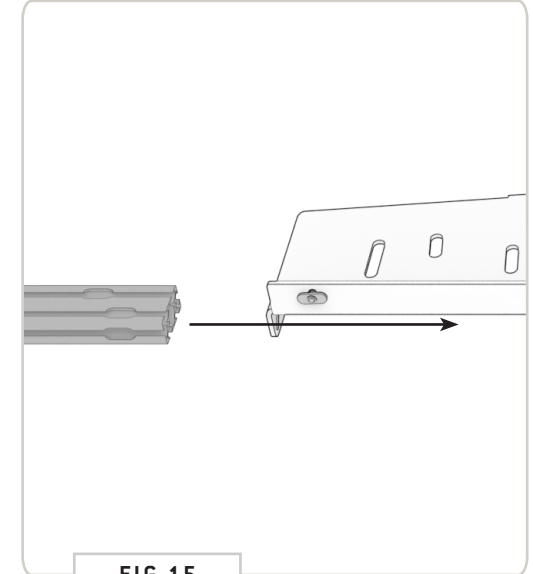

FIG 15
5.2 Crossbar Install: Now, slide the Crossbar onto the Crossbar Fairing Bracket. You'll have to straighten each T-Nut as you go to get it to feed into the crossbar correctly (FIG 15+16).